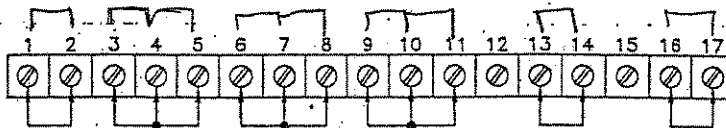

Figure 1. Normal Operation
3.3.1 NORMAL OPERATION (Figure 1)